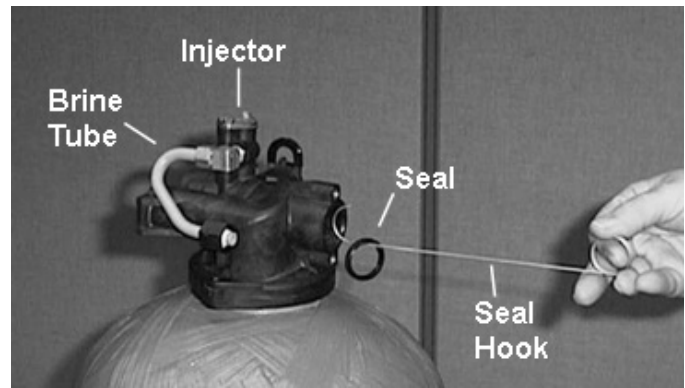

Figure 7
6. Remove the seal first using the wire hook with the finger loop (see "Figure 7").